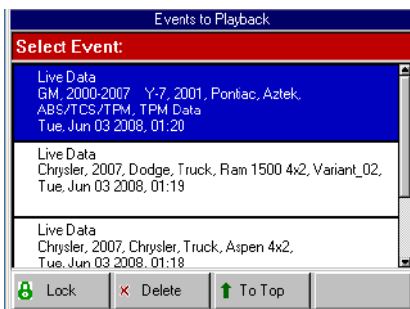

Figure 17: Events to Playback Screen
- 3 Select **Playback** and press the **ENTER** key. This displays the Events to Playback screen (Figure 17 on page 15).